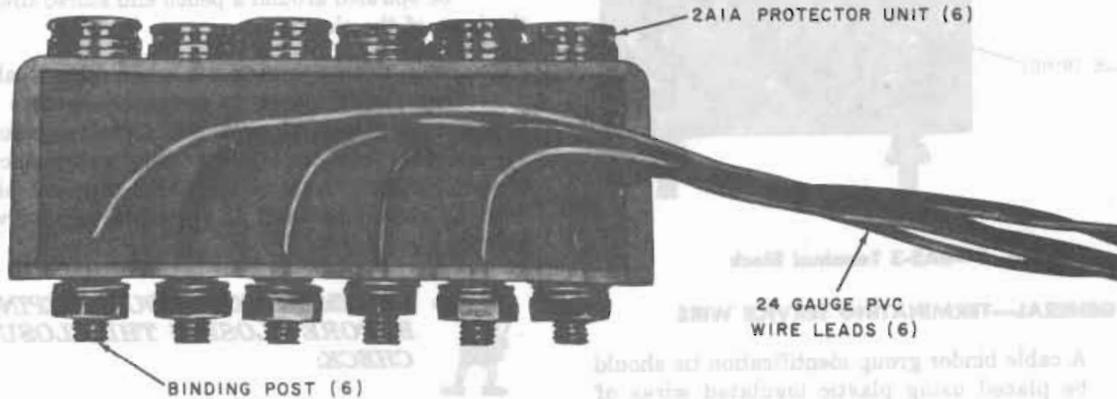

Fig. 6—6A3A-3 Terminal Block
(a) **6A3A-3 Terminal Blocks (Fig. 6):** Used for 3-pair station protection. Each terminal block will be marked "STATION PROTECTION". The terminal block is equipped with six color coded leads (white-blue, white-orange, white-green)
**7.04** At all exposed locations, where station protection (6A3A-3 terminal blocks, Fig. 6) is required, the closure must be bonded to ground. To bond the closure, terminate No. 6 ground wire to the F connector on the ground bracket assembly. Bond the other end to ground as outlined in Section 460-100-201.